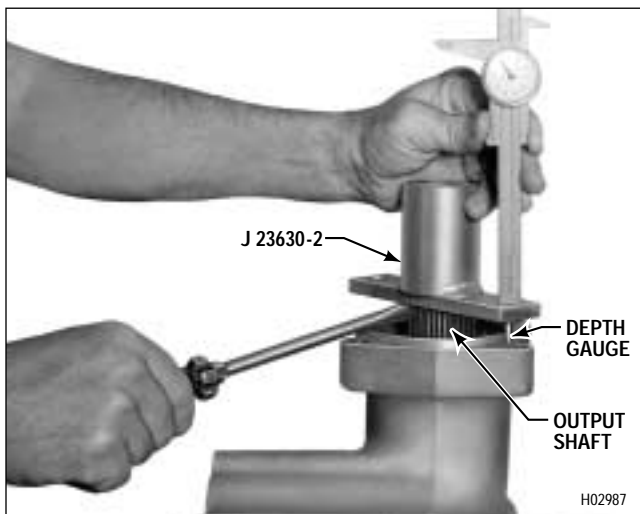

Figure 7-16. Checking End Play of Output Shaft
(8) Check the end play of the transmission output shaft as follows.
(9) Place the first clutch spring compressor base J 23630-2, flange side down on the output shaft (Figure 7-16). Secure the base to the output shaft with a 1/2-20 x 1 1/4 inch bolt. Tighten the bolt to 15 lb ft (20 N·m).
(10) Lift the output shaft with a screwdriver (Figure 7-16) and measure the distance from the top of the flange to the rear of the transmission. Release the output shaft and repeat the measurement. The allowable clearance with the proper spacer is 0.013–0.031 inch (0.33–0.79 mm). **A different size spacer must be used if this clearance is not obtained.**